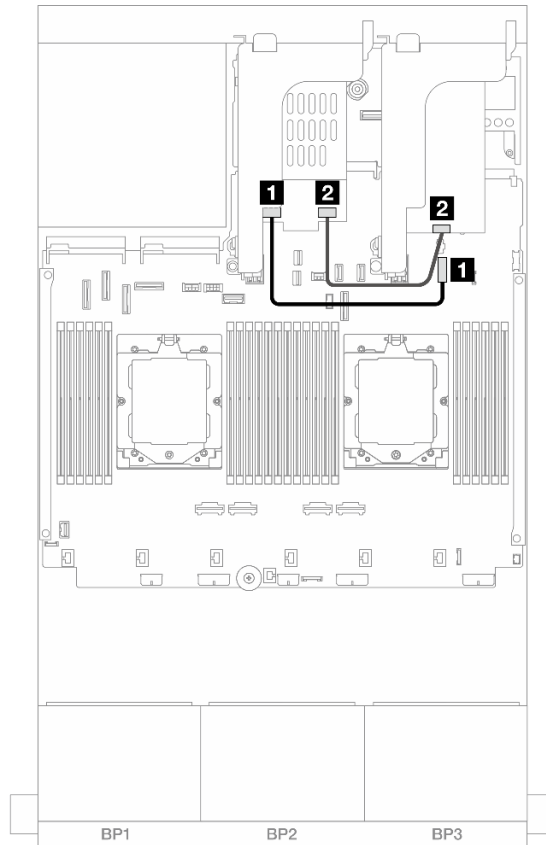

Figure 308. RAID cable routing
- Figure 308 “RAID cable routing” on page 314